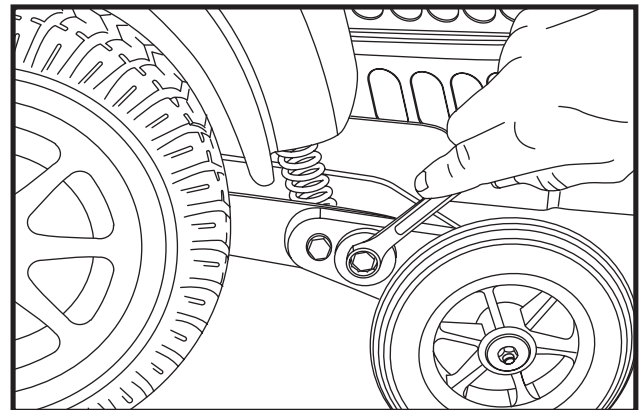

Figure 26. Anti-Tip Wheel Adjustment (Cam)
3. Place your wrench on the adjustable cam located on the other side of the locknut. See figure 26.